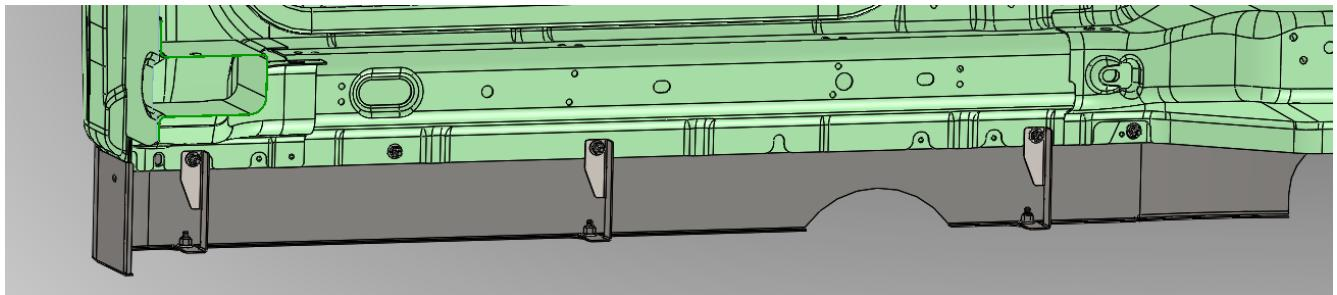

Fig. 2 – Stiffener Brackets Installed (Driver Side of 60" Sleeper Shown)
- a. Reinstall the sleeper panel using the $\frac{1}{4"}-20 \times 1"$ hex head bolts, washers (2 per fastener), and locknuts. Install a stiffener bracket at each mounting hole that has a corresponding hole on the bottom flange of the sleeper panel (Fig. 2). Place the stiffener bracket on the backside of the pinch weld and fasten with a $\frac{1}{4"}-20 \times 1"$ hex head bolt, two washers, and a locknut. Fasten the bottom of the sleeper panel to the stiffener bracket with a $\frac{1}{4"}-20 \times 3/4"$ truss head screw, washer, and locknut but do not fully tighten yet.